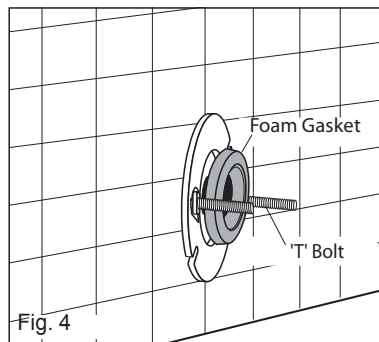

Fig. 4
2. Position "T" bolts and foam gasket (supplied) onto closet flange as detailed in Fig. 4.